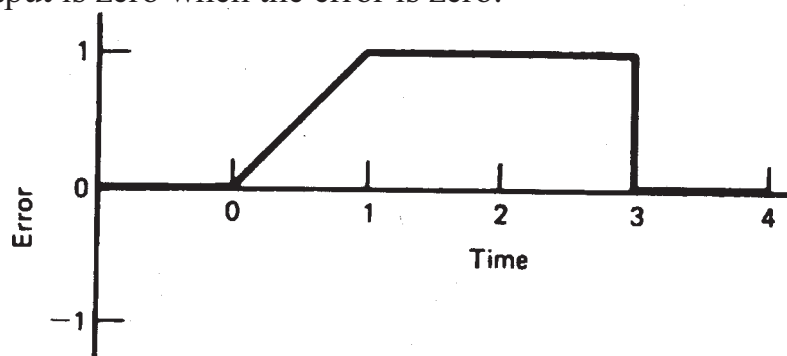

Figure 4
- Q9) a) Figure 4 shows an error time graph. Sketch the PID controller output w.r.t time. Assume $K_p = 10$, $K_I = 2$, $K_D = 0.5$ and $P_o = 0$ i.e the controller output is zero when the error is zero. [10]